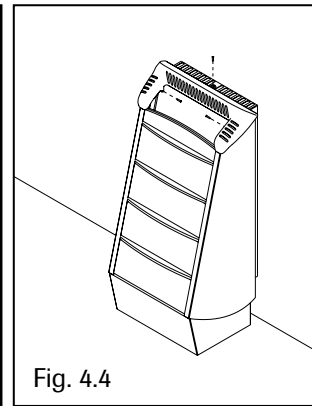

Fig. 4.4
Fasten the fixing screws (4.2 x 9.5) to the upper frame (2) and to the wall fixing plate (1) (Fig. 4.4)